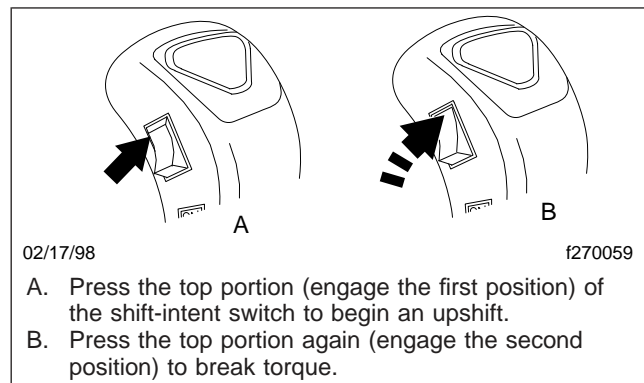

Fig. 8.19, ESS Upshifting Using the Shift-Intent Switch
NOTE: If the system switch is OFF, use the shift-intent switch to select between ranges. Push the top of the switch (Fig. 8.19) to select
- 1.3 Press the top portion of the shift-intent switch again, far enough so that the switch goes into a second position inside the body of the shift handle. Then release the switch. See Fig. 8.19. This will break torque.